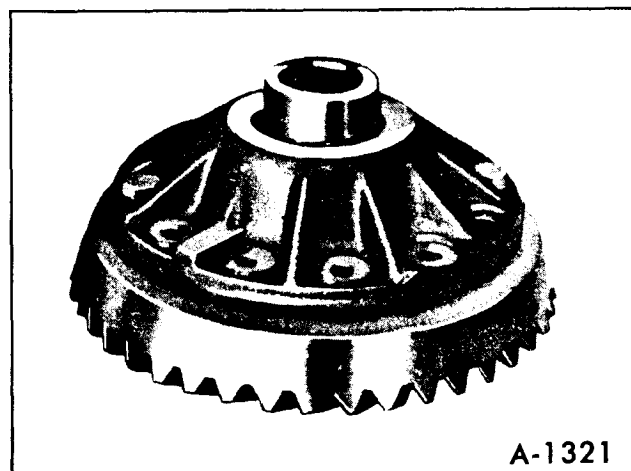

Figure 33—Separating Ring Gear From Case
3. Position case as shown in Figure 33 and tap lightly on a bench to separate the case from ring gear.